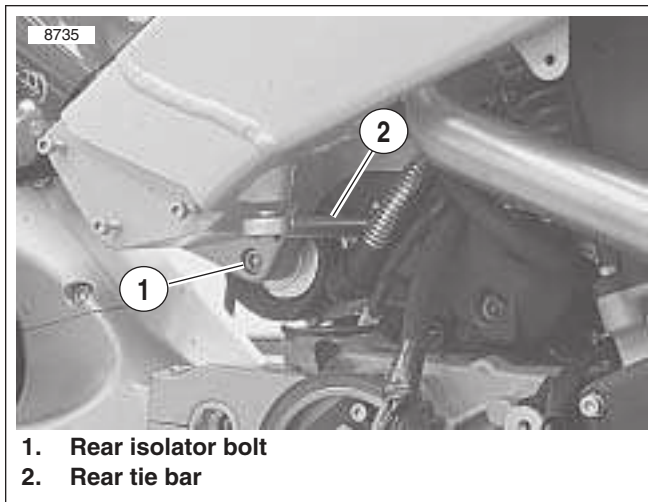

Figure 3-6. Rear Isolator Bolt and Rear Tie Bar (Typical)
22. See Figure 3-6. Remove rear tie bar from frame only.